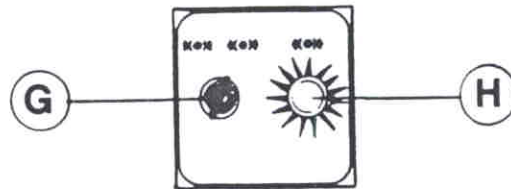

Fig.63
To carry out the working turn selector (G fig.63) to the left. When you turn the switch for saw control to position 0, the motor automatically brakes. For changing blade the spindle must rotate freely; in this case turn selector (G) to the right; pilot lamp (H) lights up. The motor may be started only if selector (G) is turned to the left.